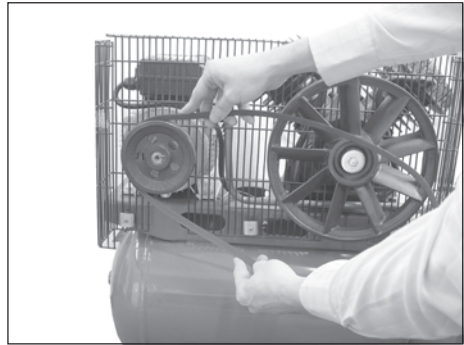

Figure 16
- 2 Place the replacement drive belt over the small wheel. See figure 16.